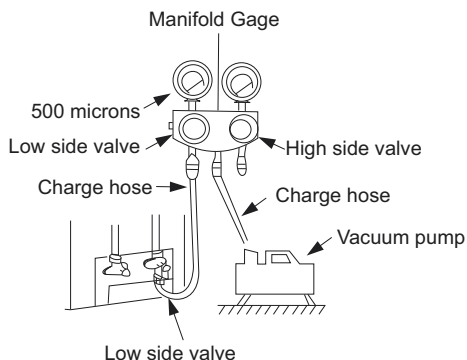

Fig. 14 – Manifold
3. Fully open the low side of manifold gage (see Fig. 14).